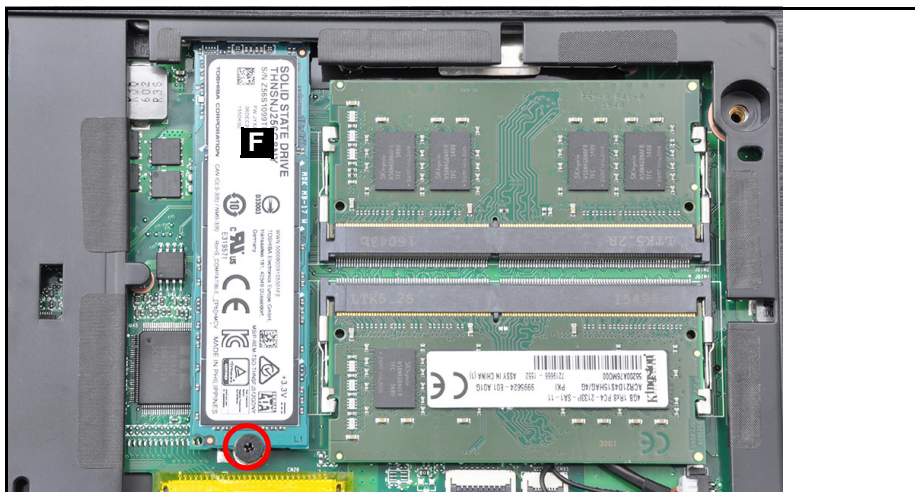

Figure 3-16. SSD Removal
2. Remove one screw securing the SSD module in place (Figure 3-16).